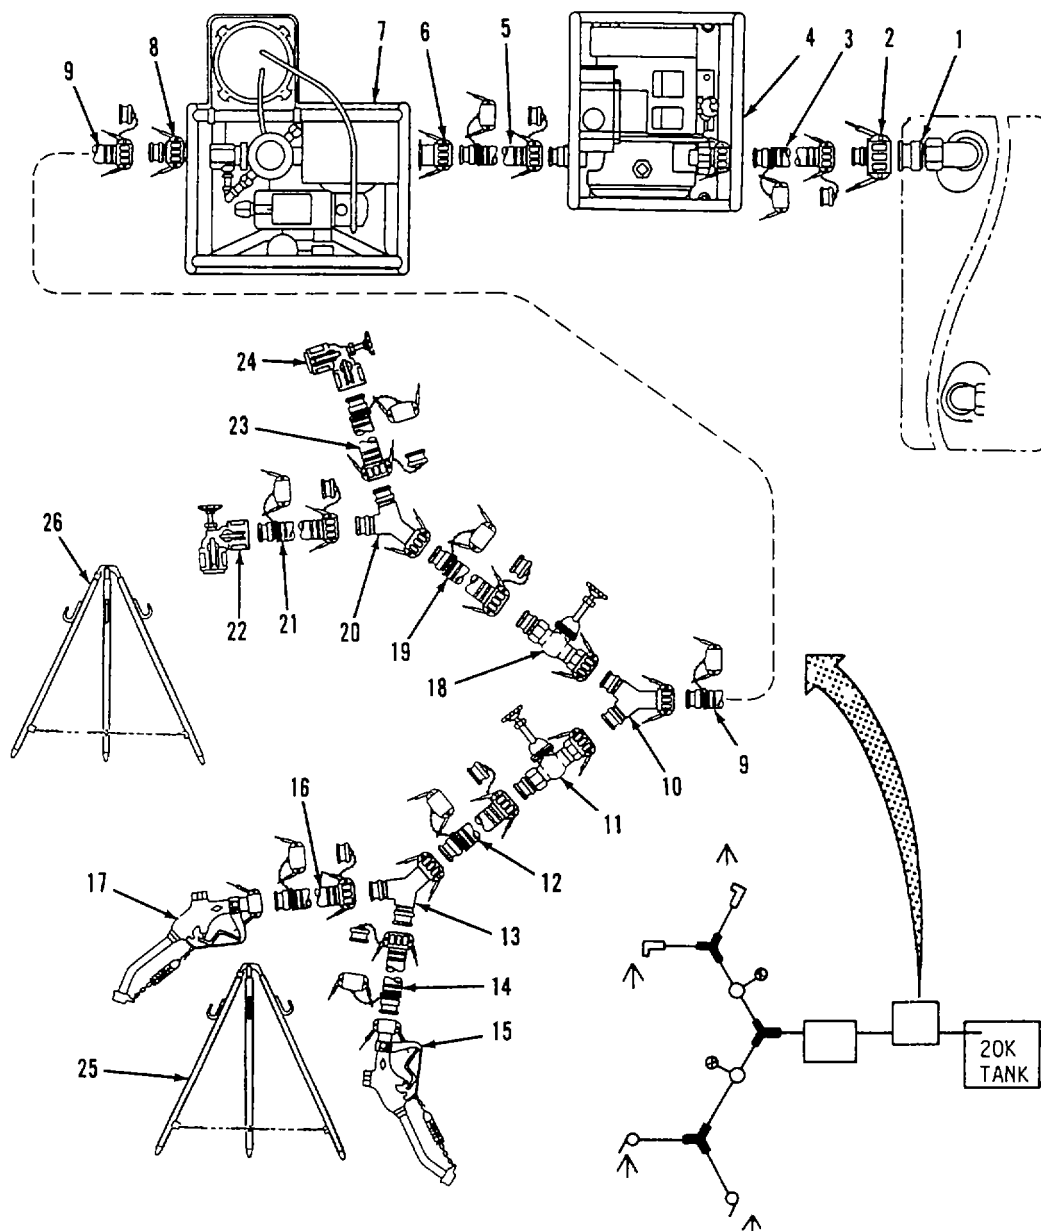

Figure 2-31. Distribution Point assembly.
- a. Disassemble Distribution Points Refer to figure 2-31.
- (1) Disconnect elbow valve (24) from 2 Inch x 20 feet discharge hose (23).
- (2) Disconnect 2 inch x 20 feet discharge hose (23) from Y-fitting (20).
- (3) Disconnect elbow valve (22) from 2 inch x 20 feet discharge hose (21).
- (4) Disconnect 2 inch x 20 feet discharge hose (21) from Y-fitting (20).
- (5) Disconnect Y-fitting (20) from 2 inch x 20 feet discharge hose (19).
- (6) Disconnect 2 inch x 20 feet discharge hose (19) from 2 inch gate valve assembly (18).
- (7) Disconnect 2 inch gate valve assembly (18) from Y-fitting (10).
- (8) Disconnect 1 1/2 inch distribution nozzle (17) from 2 inch x 20 feet discharge hose (16) Figure 2-31 Distribution Point Disassembly.